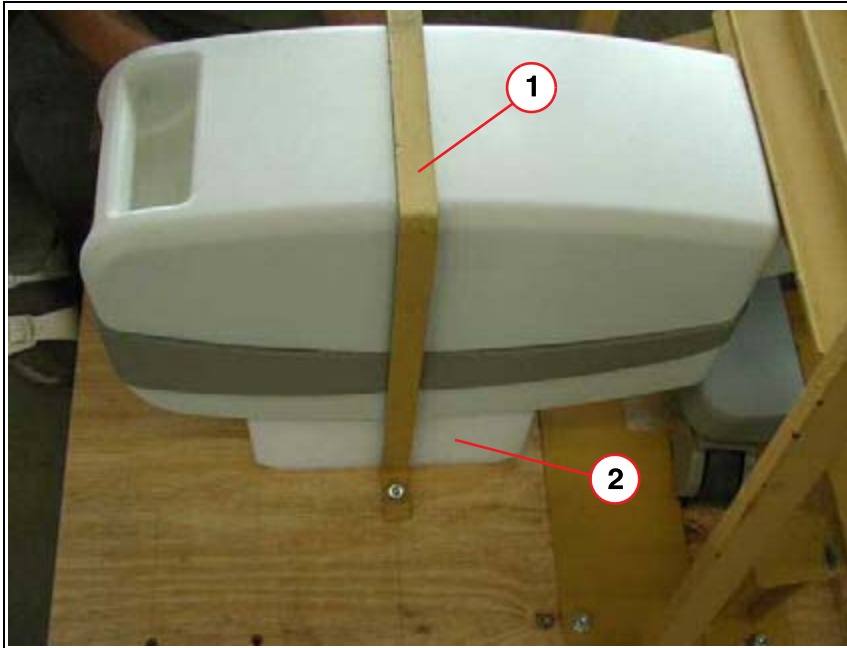

Fig. 8: Retaining clamp\_tube assembly
- Unscrew and remove the retaining clamp (1/Fig. 8 / p. 9) (Styrofoam, (2/Fig. 8 / p. 9)).